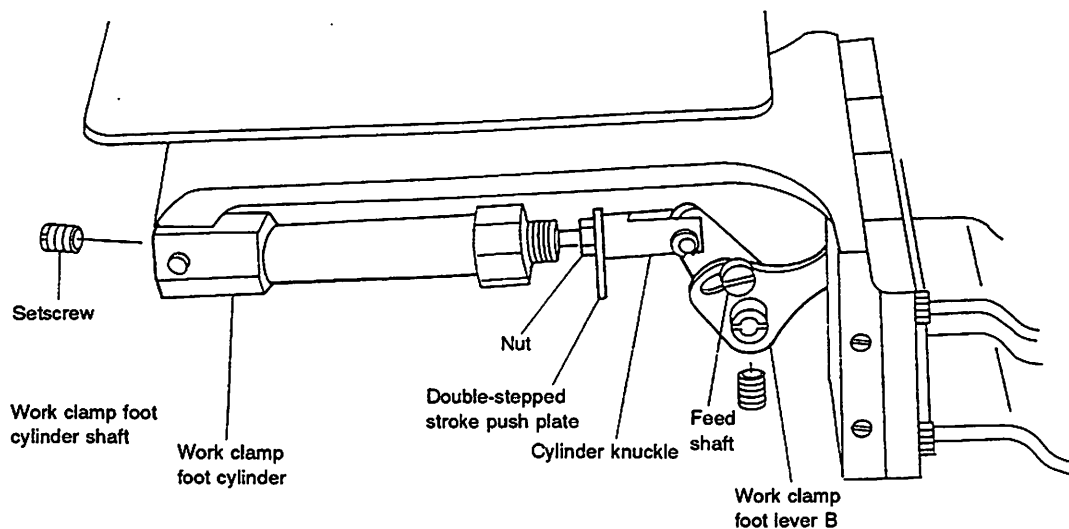

Fig. 4-7-1
- 1) Assemble the double-stepped stroke feeding frame push plate to Fig. 4-7-1.